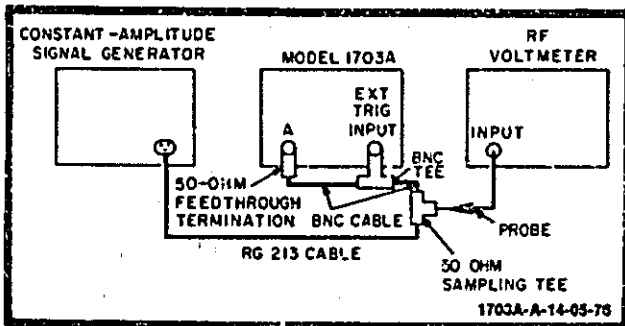

Figure 5-15. Delayed Triggering Test Setup
- a. Connect instruments as shown in figure 5-15.